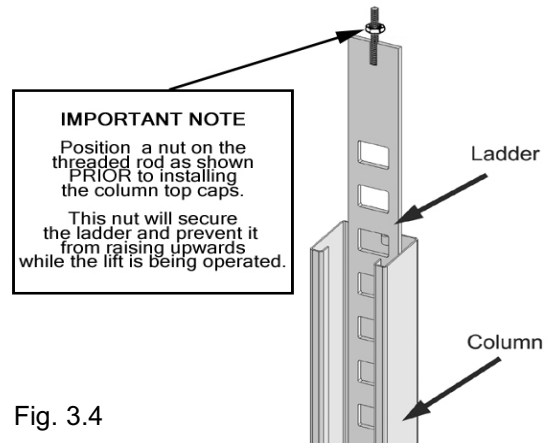

Fig. 3.4
4. With the columns standing and the cross tubes in position, install the safety ladders. Pass the ladders through the column openings and drop down through the slide block guide slots on the cross tube until the ladders come to rest on the base plates. **DO NOT BOLT** columns down at this time. (See Fig. 3.4 - 3.5)